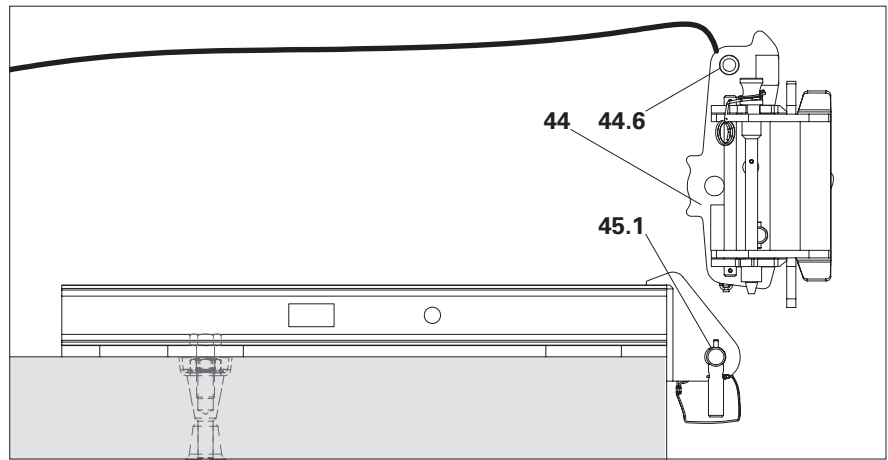

Fig. D1.12
3. Pull the climbing shoe upwards and lay on floor slab; then insert locking pin (**45.1**) into the slab shoe again. (Fig. D1.12)